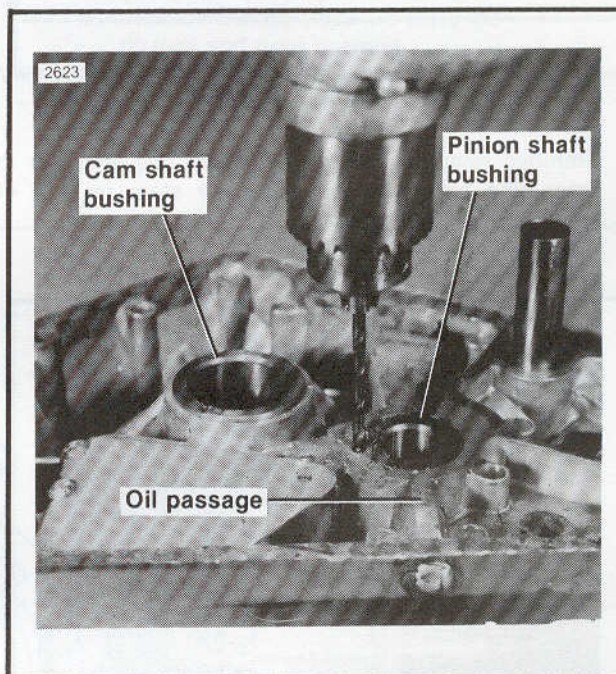

Figure 3-49. Pin Gearcase Cover Bushings
1. See Figure 3-49. To ream pinion shaft bushing, insert reamer pilot in right crankcase roller race. Insert 0.563 in. PINION SHAFT COVER BUSHING REAMER, Part No. HD-94805-57, through pilot and push into cover bushing until it bottoms, then give reamer one complete turn to size bushing. Rotate reamer the same direction (clockwise) during extraction.